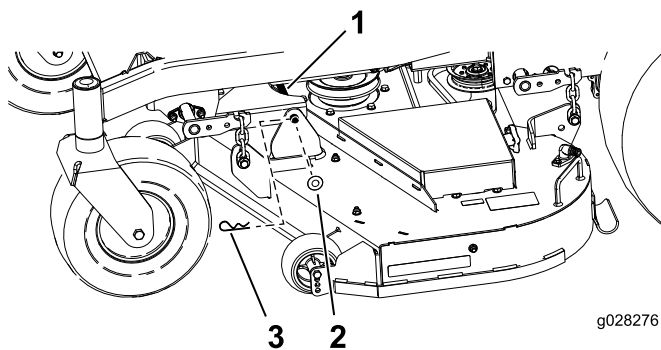

Figure 68
1. Remove the hair pin cotter and washer securing the long, link pin to the frame and deck; remove the link bar (Figure 68).
9. Secure the link bar with the hair pin cotters and washers removed previously (Figure 68).